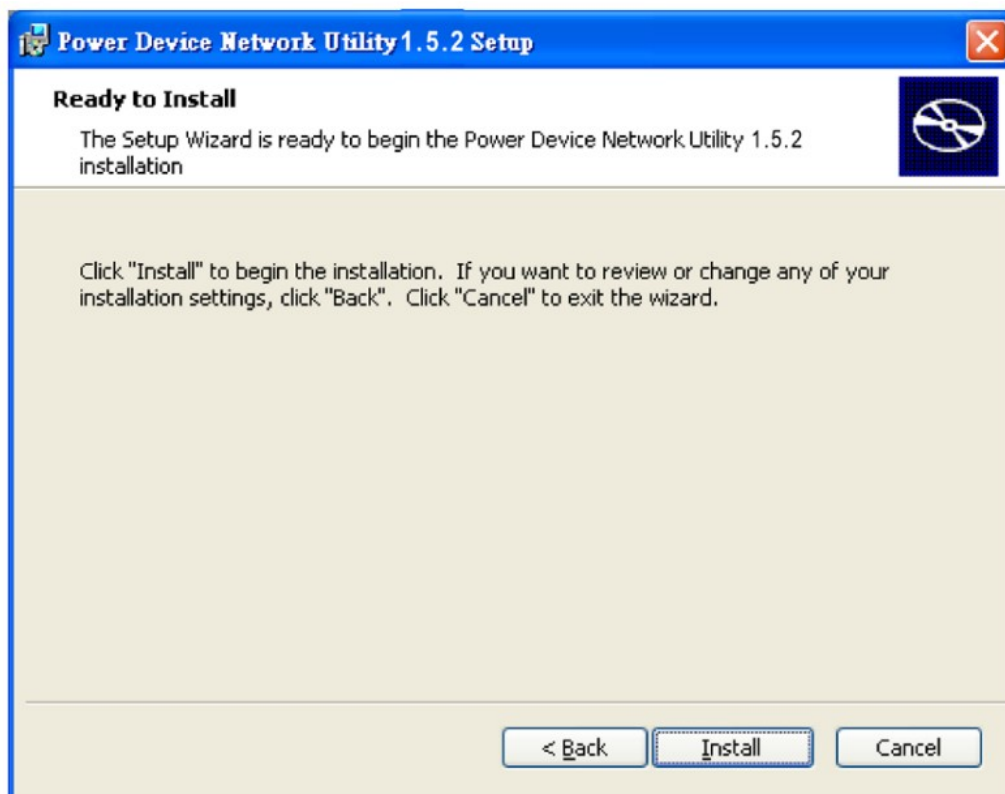

Figure 3
Step 4. Select Install to confirm the settings and install (Shown in Figure 3).